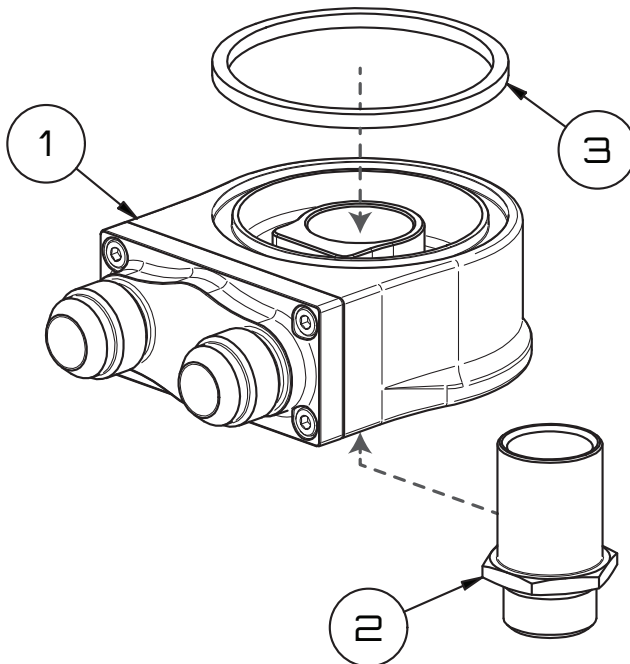

Figure 1 - ENV-131 Schematic
1. Ensure that the O-ring is properly seated in the top of ENV-131 as shown in Figure 1.